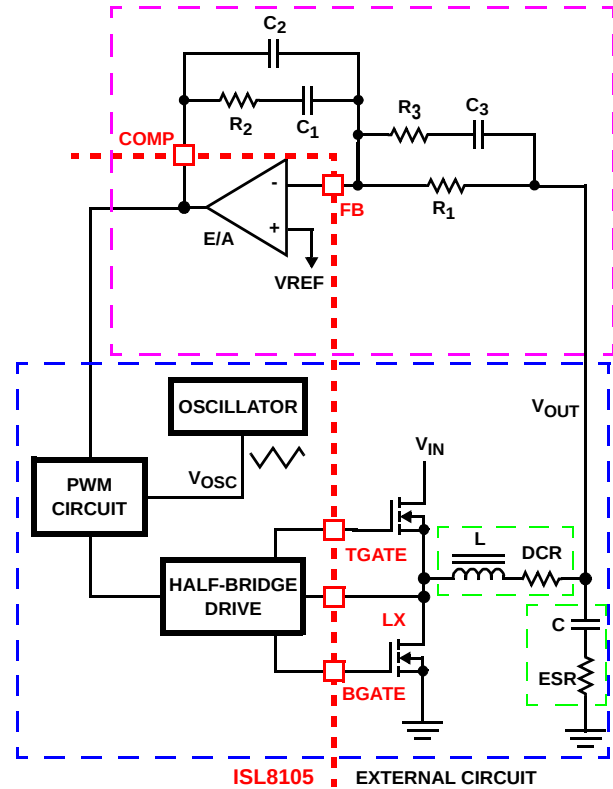

FIGURE 9. VOLTAGE-MODE BUCK CONVERTER COMPENSATION DESIGN
This section highlights the design considerations for a voltage-mode controller requiring external compensation. To address a broad range of applications, a type-3 feedback network is recommended (see Figure 9).
Figure 9 highlights the voltage-mode control loop for a synchronous-rectified buck converter, applicable to the ISL805 circuit. The output voltage (V_{OUT}) is regulated to the reference voltage, V_{REF} level. The error amplifier output (COMP pin voltage) is compared with the oscillator (OSC) triangle wave to provide a pulse-width modulated wave with an amplitude of V_{IN} at the LX node. The PWM wave is smoothed by the output filter (L and C). The output filter capacitor bank's equivalent series resistance is represented by the series resistor ESR.
The compensation network consists of the error amplifier (internal to the ISL8105) and the external R_1 - R_3 , C_1 - C_3 components. The goal of the compensation network is to provide a closed loop transfer function with high 0dB crossing frequency (F_0 ; typically 0.1 to 0.3 of F_{SW}) and adequate phase margin (better than $+45^\circ$). Phase margin is the difference between the closed loop phase at F_{0dB} and $+180^\circ$. The equations that follow relate the compensation network's poles, zeros and gain to the components (R_1 , R_2 , R_3 , C_1 , C_2 , and C_3) in Figure 9. Use the following guidelines for locating the poles and zeros of the compensation network:
1. Select a value for R_1 (1kΩ to 10kΩ, typically). Calculate value for R_2 for desired converter bandwidth (F_0). If setting the output voltage to be equal to the reference set voltage as shown in Figure 9, the design procedure can be followed as presented.